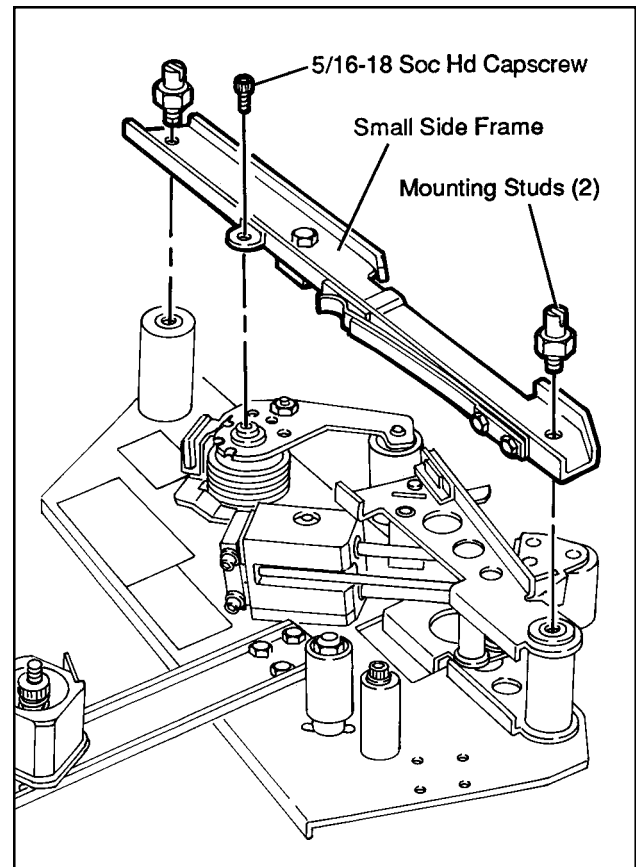

Figure 2-12
2. Remove the mounting studs on the front and rear of the taping head. Also remove the 5/16-18 socket head capscrew that holds the buffing arm. Remove the small side frame from taping head. See Figure 2-12.